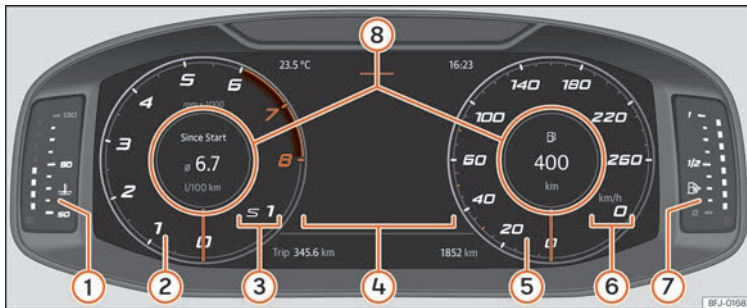

Fig. 58 SEAT Digital Cockpit on the instrument panel (classic view).
In *Classic View* and *Semicircular watches* it is possible to customise the information displayed under **Information Profiles** »» **Fig. 58** ⑧.
»» Fig. 58.